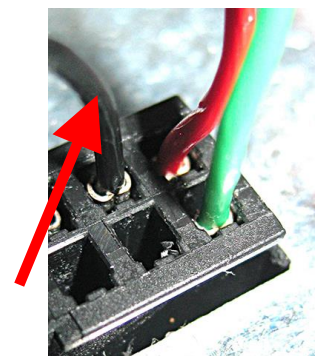

Figure 87
90. Insert the black wire into the position (pin 7) directly to the left of the red wire inserted in step 88) (see Figure 87).